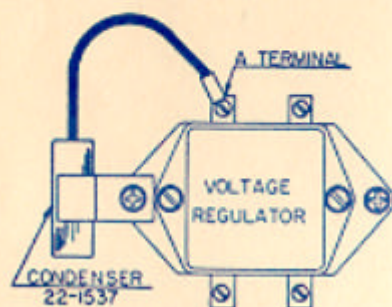

Fig. 1
1. Remove the mounting screw of the voltage regulator and under this screw mount the condenser No. 22-1537. Connect the lead to the voltage regulator "A" terminal. (Fig. 1)